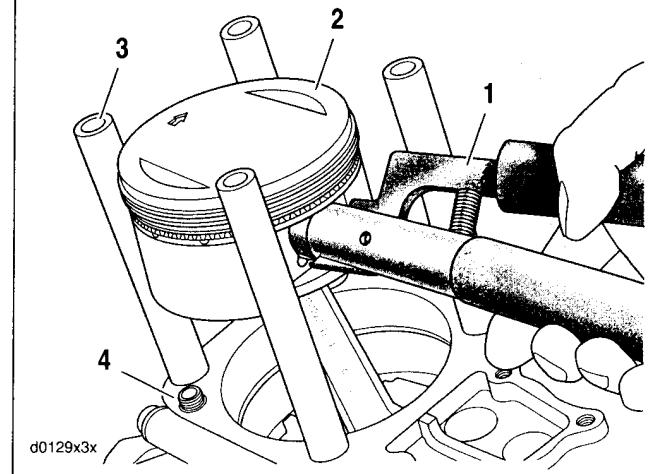

Figure 3-27. Piston Pin Circlip Removal
- See Figure 3-27. Remove O-ring from dowel pin (4) on base of cylinder deck. Discard O-ring.
- See Figure 3-27. Remove the piston pin circlip.
- Insert the PISTON PIN CIRCLIP REMOVER/INSTALLER (1) (Part No. HD-42317) into the piston pin bore. Position claw on tool in slot of piston (2) (directly under circlip).